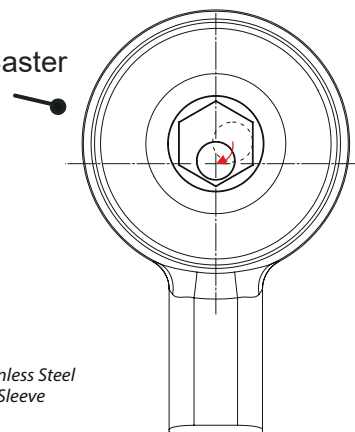

Figure 2
6. For maximum camber, use the supplied spanner to rotate the sleeve so that the bore is positioned facing down the length of the arm as shown in Fig. 2